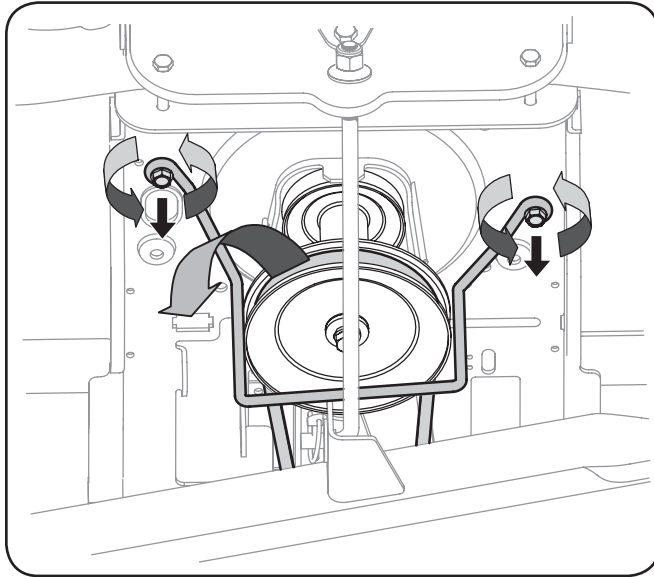

Figure 7-1
3. Locate the PTO clutch under the front of your tractor. See Figure 7-1.
4. Remove the belt guard and belt as follows. Refer to Figure 7-1:
12. Replace the belt guard. See Figure 7-1.